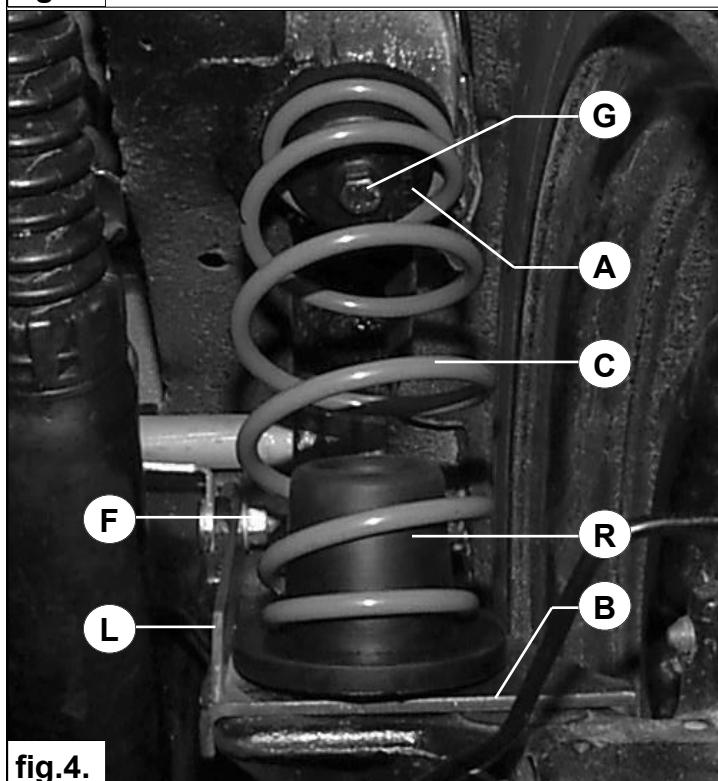

fig.4.
7. Place bracket **B** on the suspension arm, lock strip **L** with nut **F**. See fig.4.